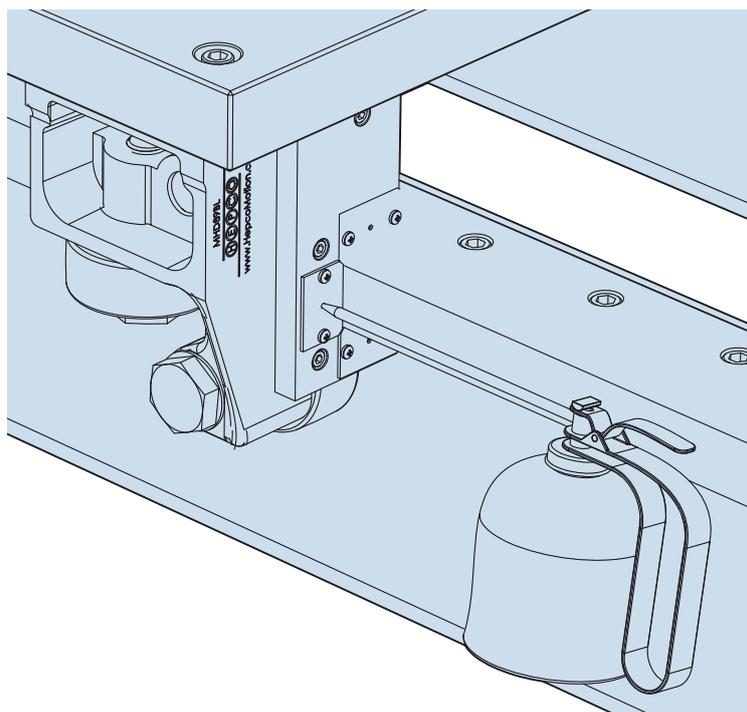

Figure 9
28. Apply extra lubricant to each wiper cavity, via the lubrication point [Item 17] in each scraper plate, as shown in Figure 9. Use a suitable slideway oil, 68cS viscosity is appropriate.